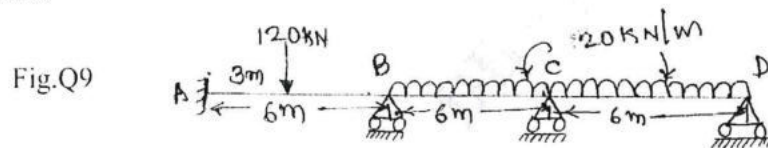

Fig.Q9
- 9 Analyze the continuous beam shown in Fig.Q9 by stiffness matrix method. Take EI constant.